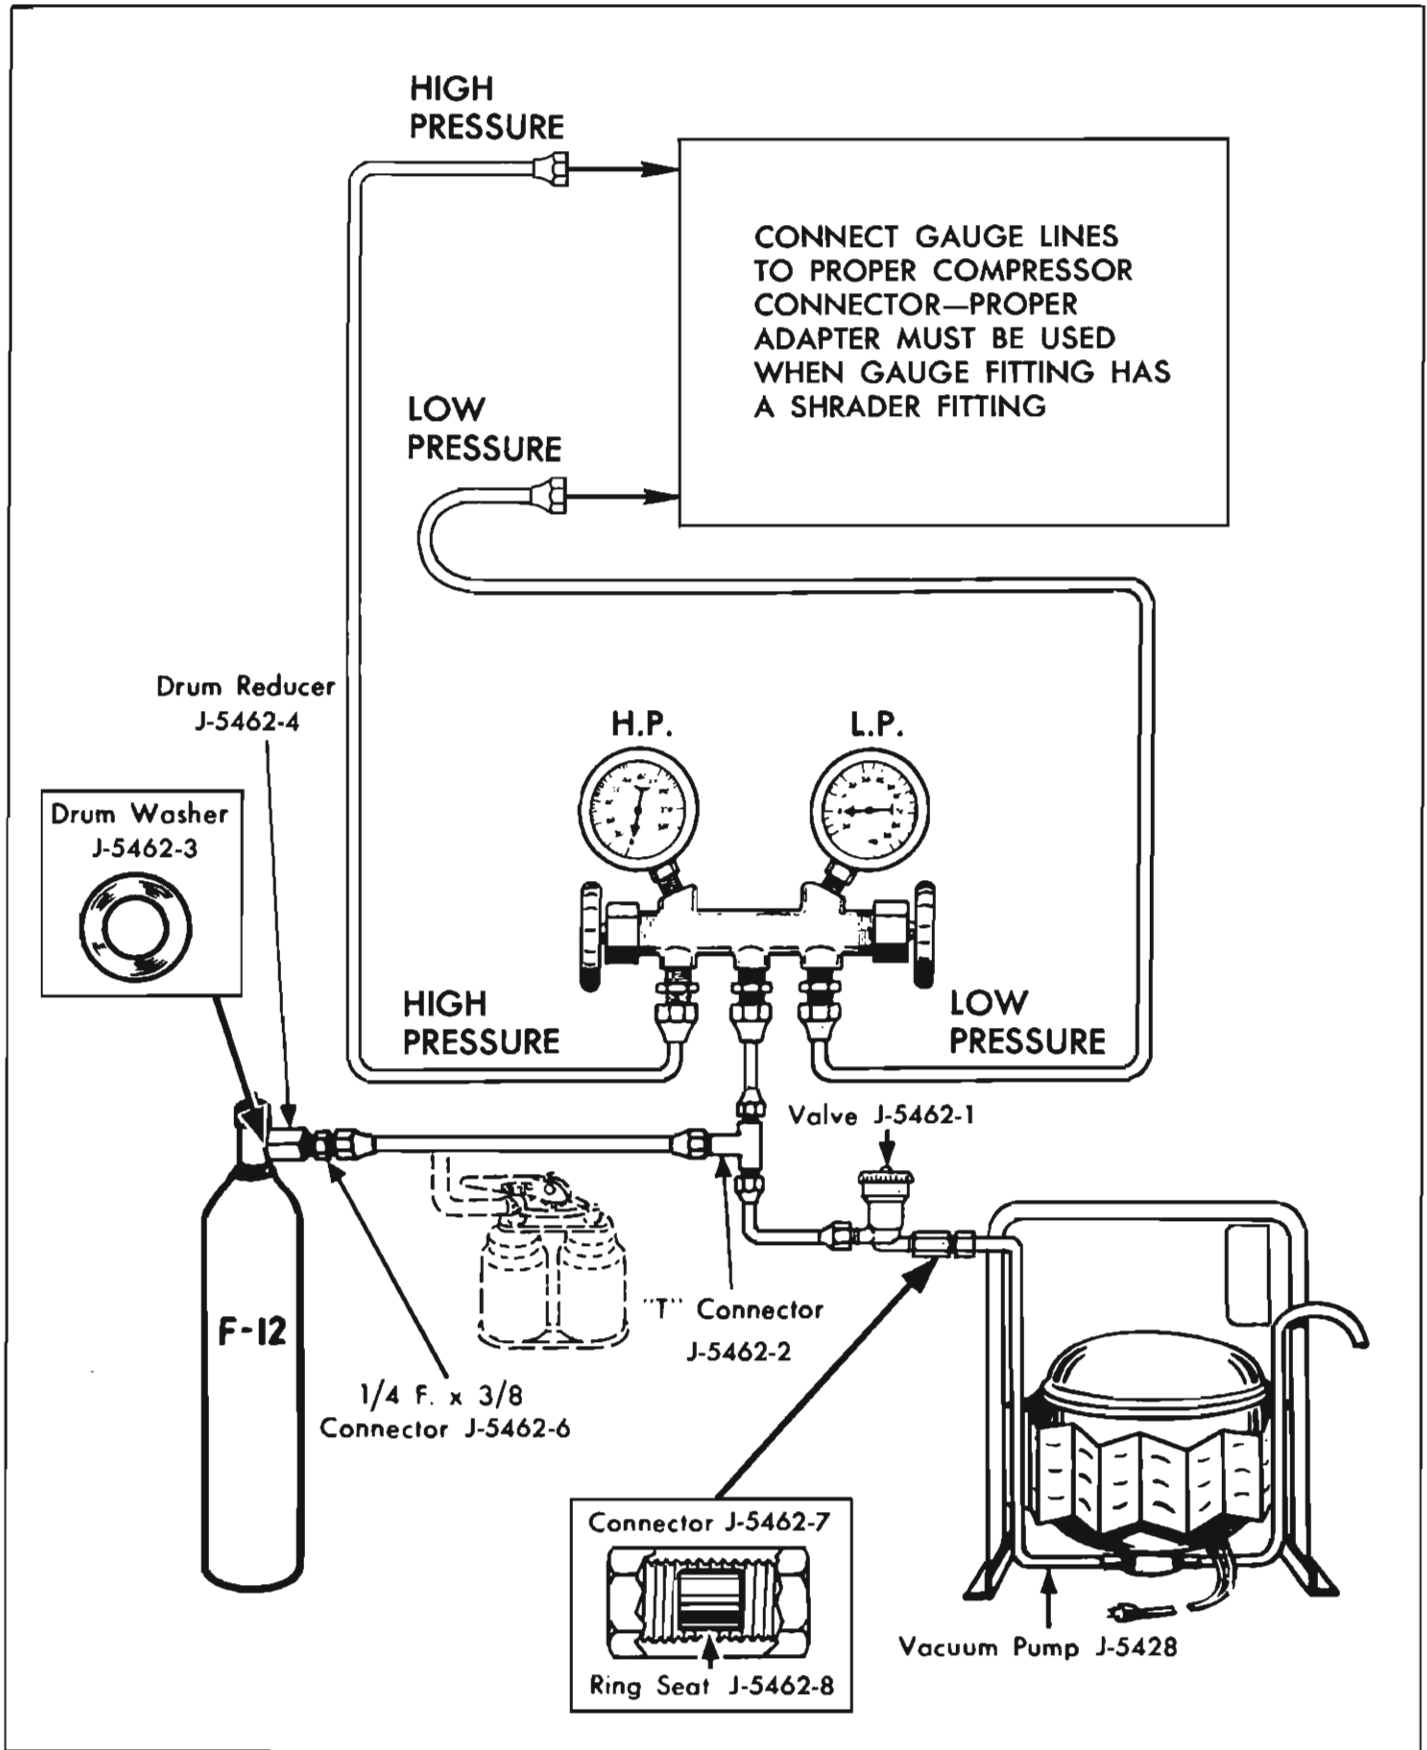

Fig. 11-20—Gauge Connections for Evacuating and Charging System
The proper method is to connect a vacuum pump, Tool J-5428, into the system as shown in Figure 11-20.
1. With gauge set, adapters and Freon drum (or cans) installed as shown in Figure 11-20, make sure high and low pressure gauge valves and the valve on the Freon drum are closed.